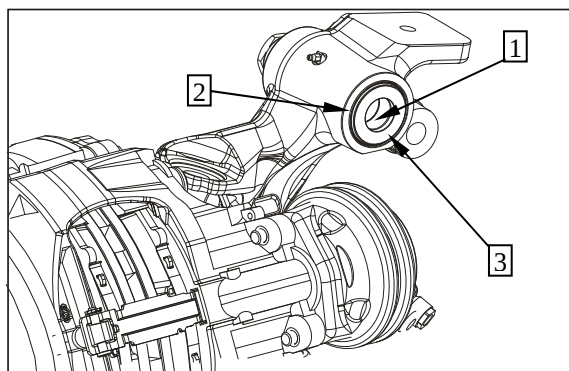

Figure 9
☞ Fit bearing inner ring (1), scraper (2) and ring (3) according to Figure 9.